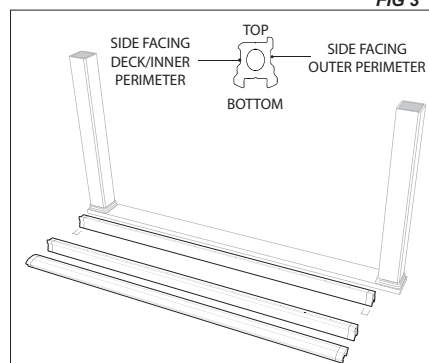

FIG 3
6. Lay the bottom universal rail beside the post sleeves with the pre-drilled holes facing upward, making sure the single leg is facing the outer perimeter as shown in Figure 3. The rails should extend past the post sleeves on each side, making sure your rail opening does not exceed the rail length. Be sure to place the first pre-drilled hole on each end of the rail the same distance from the post sleeve. **NOTE: Arrange the universal rail so you do not end at a post sleeve with a partial baluster position.** Mark both ends of the rail where they cross the post sleeve and cut to length. Transfer your marks to the top universal rail and hand rail and cut to length. **(Figure 3)**
6. Lay the bottom universal rail beside the post sleeves, making sure the single leg is facing the outer perimeter as shown in Figure 3. The rails should extend past the post sleeves on each side, making sure your rail opening does not exceed the stair rail length. Mark both ends of the rail where they cross the post sleeve. Transfer your mark to the top universal rail and hand rail and cut to length and angle. **(Figure 3)**